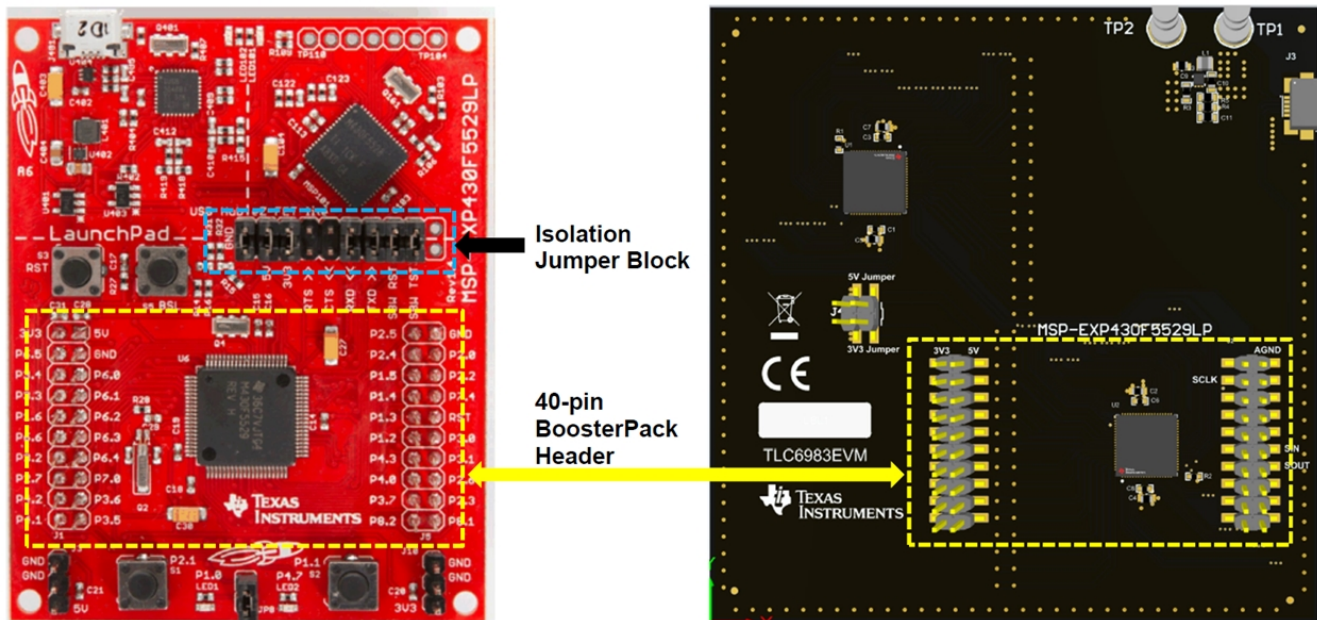

Figure 3-1. TLC6983EVM and MSP430F5529 LaunchPad™ connector pinout
- b. Connect boosterpack connectors (J1, J2 on EVM board) with the MSP430F5529 LaunchPad™, the connection method is shown in Figure 3-1.